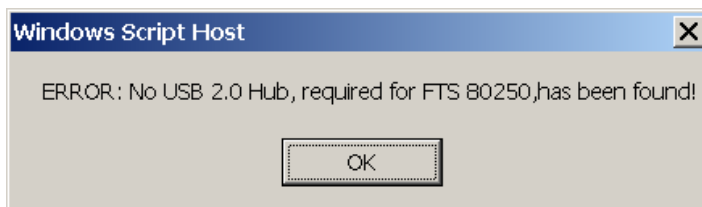

Figure 17: Active X Communication
9. The Active X installation is now complete. However, communication to the instrument cannot be established until the MIRMat software installation has also been completed. If the error message shown Figure 17 appears, click OK. This message only appears on certain operating systems.